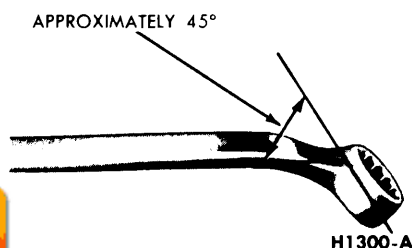

FIG. 4—Wrench for Bleeding Brake
1. Position a bent $\frac{3}{8}$ -inch box wrench on the bleeder fitting on the right rear brake wheel cylinder (Fig. 4). Attach a rubber drain tube to the bleeder fitting. **The end of the tube should fit snugly around the bleeder fitting.**
3. Position a $\frac{3}{8}$ -inch box wrench on the bleeder fitting on the right rear brake wheel cylinder (Fig. 4). Attach a rubber drain tube to the bleeder fitting. **The end of the tube should fit snugly around the bleeder fitting.**